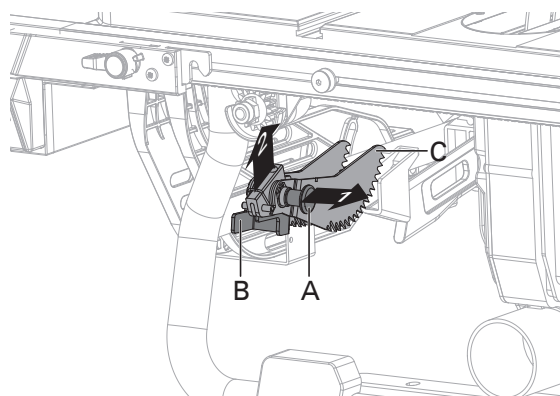

Fig. 9a
ANTI-KICKBACK PAWLS AND BLADE GUARD INSTALLATION (Fig. 9a-9b)
- Pull out and hold knob (A) and push anti-kickback pawls up, remove it from the anti-backpawls storage (B) located on inside of the left side of saw. (Fig. 9a)
- Pull out and hold knob (A). Align slot in anti-kickback pawls (C) over the slot (D) indicated of riving knife (E). Place the spring pin (F) on the anti-kickback pawls (C) into the slot (D) indicated on the riving knife (E).
- Press anti-kickback pawls (C) down until it snaps into place and release knob (A) to insert the pin (G) into hole (H) indicated on the riving knife (E).